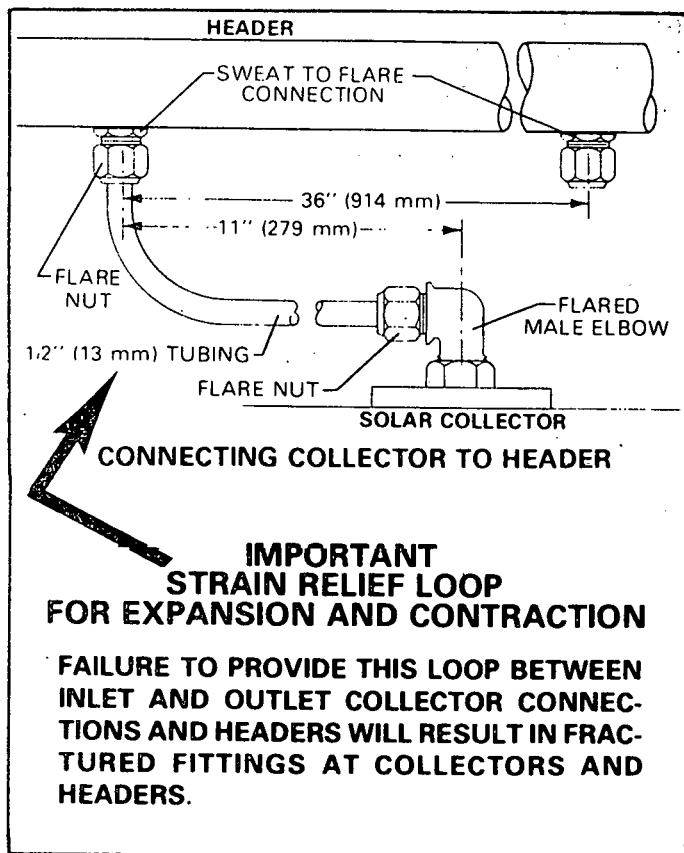
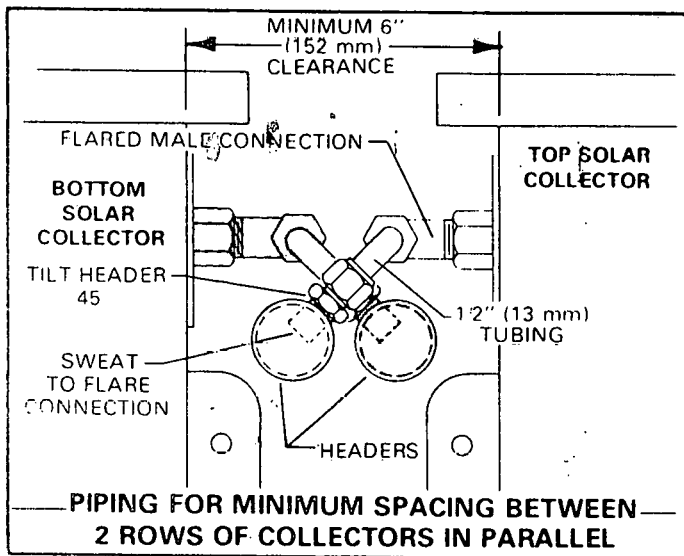

FIGURE 16
FIGURE 17
- 5 - A 3/8 inch sweat to 1/2 flare fitting must be soldered into each header at 36 inch intervals. Install a flare male elbow at the collector and connect piping as shown in Figure 16. In a two row parallel application, the return and supply headers can be piped according to Figure 17 to minimize collector spacing.